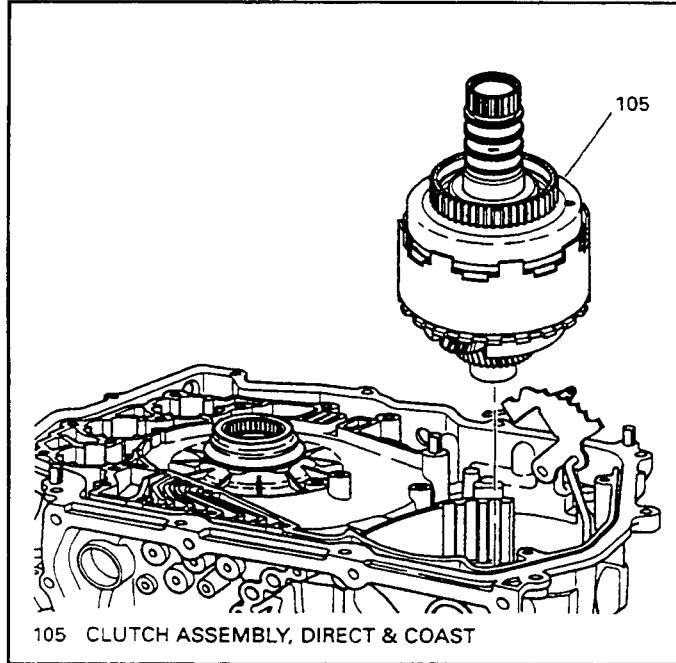

Figure 142
48. Install the direct/coast clutch & reaction carrier assembly (105) into the transaxle, as shown in Figure 142, by rotating into position.